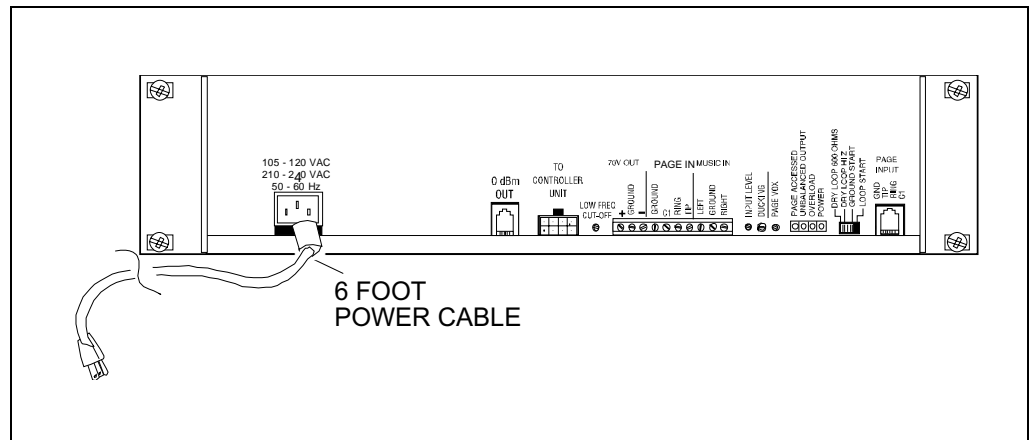

Figure 7. Power Cable
6. Insert power cord into AmpliCenter and into wall outlet (see Figure 7).